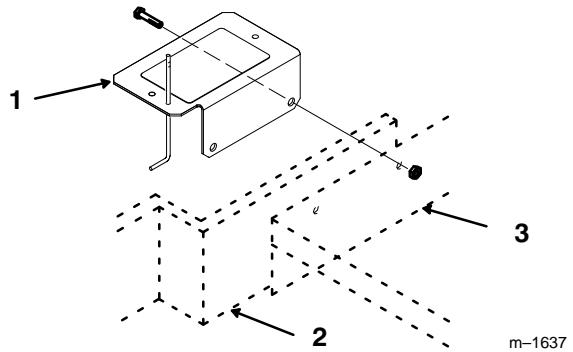

Figure 12
1. Mount battery holder and cutting unit carrier frame at the same time to upper holes on right side of traction unit. Use (2) 1/2-13 x 1-1/4" lg. flange head capscrews and lock nuts (Fig. 12).